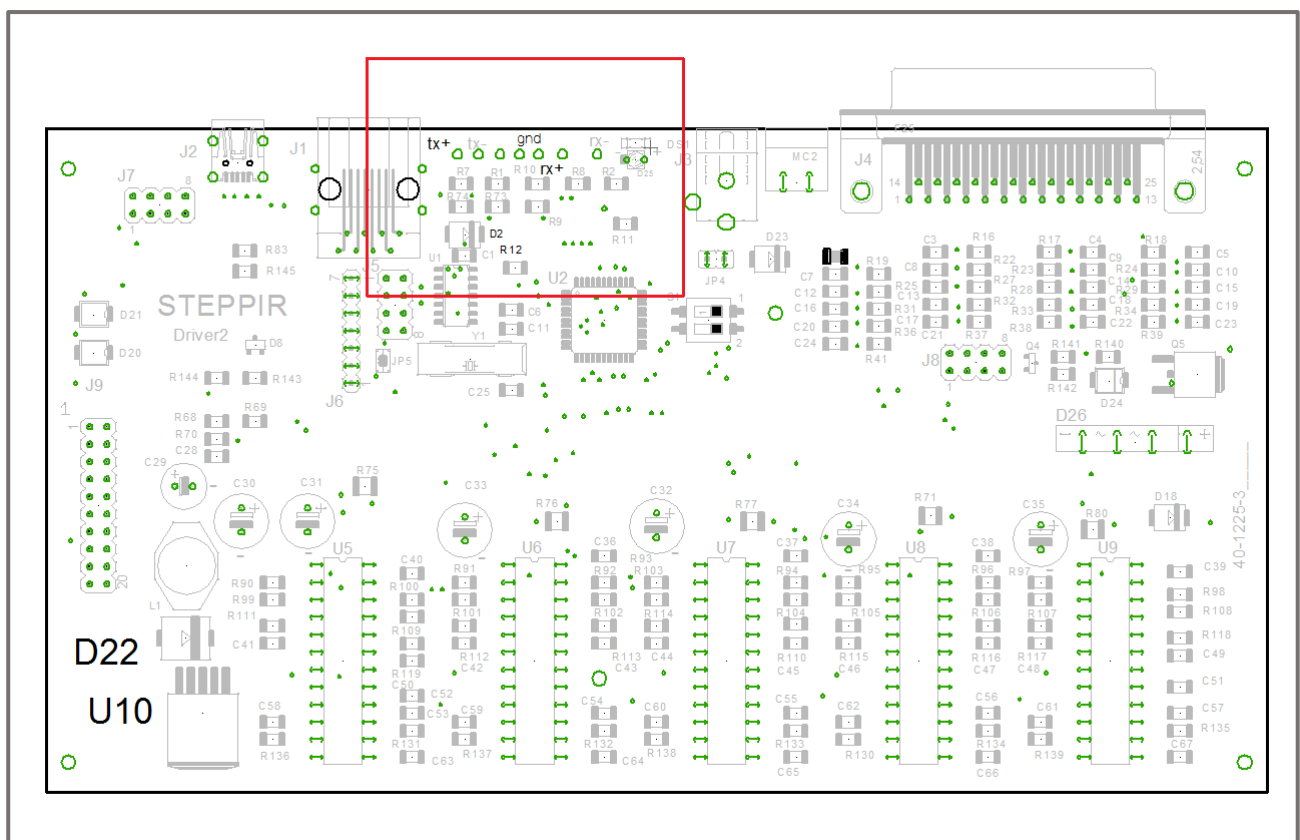

Fig. 4 Driver Board Pad Locations
Step 7: Locate the area shown inside the red box in Figure 4.